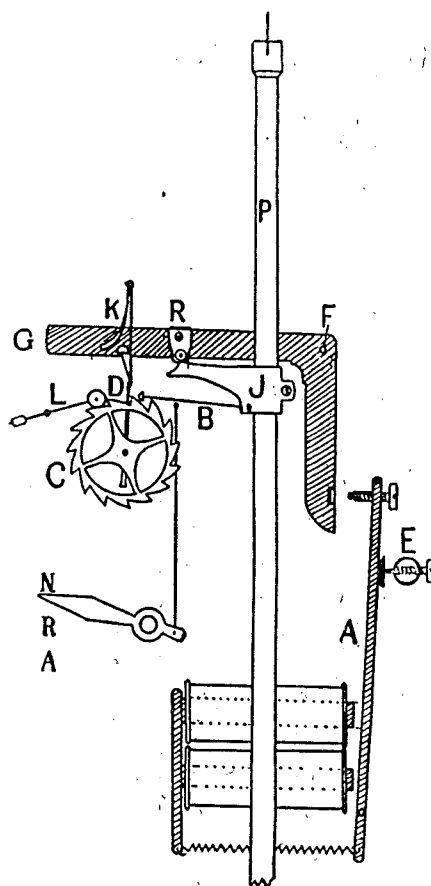

Fig. 3.—SWITCH MOVEMENT OF A SYNCHRONOME ELECTRIC CLOCK.
Fig. 3) centred at F and normally supported on the spring catch K. Once every half-minute the lever is let down (in the act of giving an impulse to the pendulum P) upon (2) the armature A. Current from any available source then passes through the series circuit of dials and the magnet, which attracts the armature A. and throws up the lever G on to its catch again.
Convenient means of setting all the dials to time is provided by the lever on the left-hand side of the controlling pendulum switch (see Fig 3.) When this lever